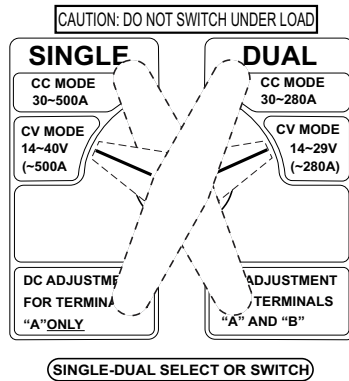

Figure 47. Single-Dual Selector Switch
- Place the welding mode selector switch (Figure 47) in either the **single** or **dual** mode position. Select CV mode either 14~40V/single or 14~29V/dual.